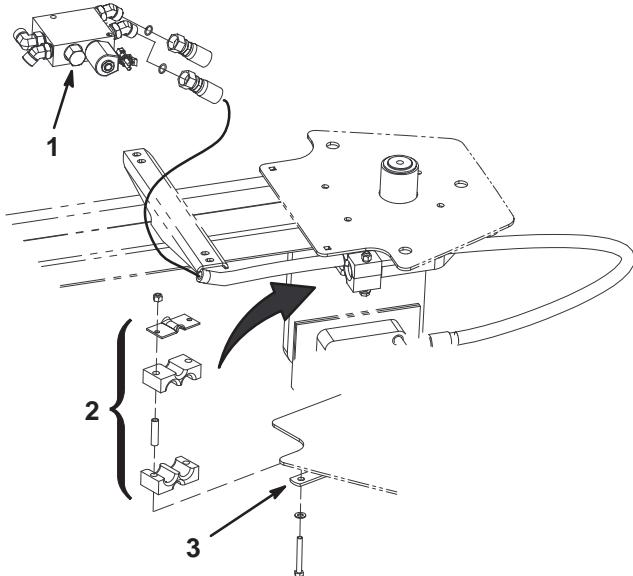

Figure 5
14. Route the wheel motor hydraulic hose assemblies along the left side of the frame and secure them to the fittings on the rear of the selector valve (Fig. 5) as follows:
15. Loosely mount the hoses to the tab on the left side of the frame with the clamp assembly (Fig. 5).